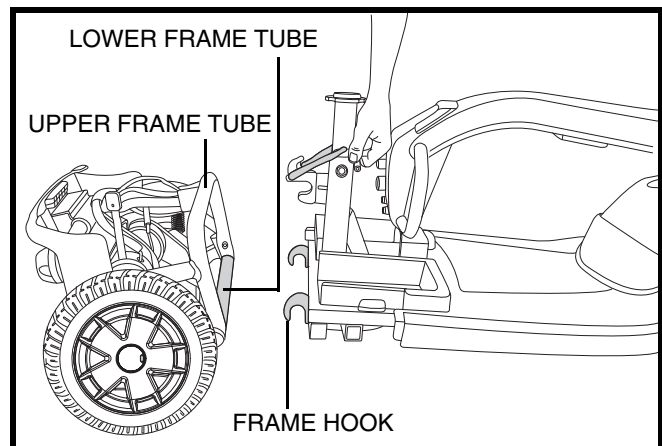

Figure 23. Frame Separation
1. Position the front and rear sections of your scooter as shown in figure 23.
2. Use the frame release lever to lift the front section as you align the frame hooks of the front section with the lower frame tube of the rear section. See figure 23.